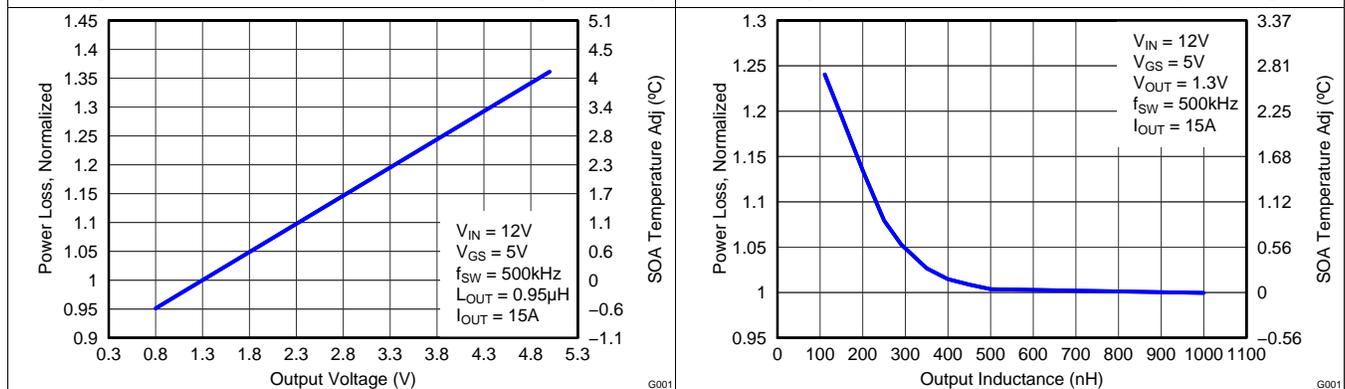

Figure 7. Normalized Power Loss vs Output Voltage
- Normalized Power Loss for output voltage  $\approx$  0.97 (Figure 7)
- SOA adjustment for output voltage  $\approx$  -0.3°C (Figure 7)